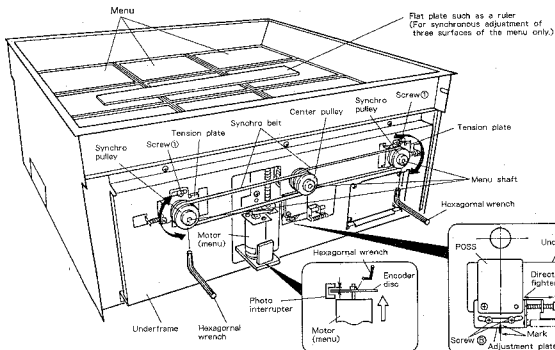

Fig. 7-1
• Synchronous adjustment of three surfaces of the menu (Fig. 7-1)